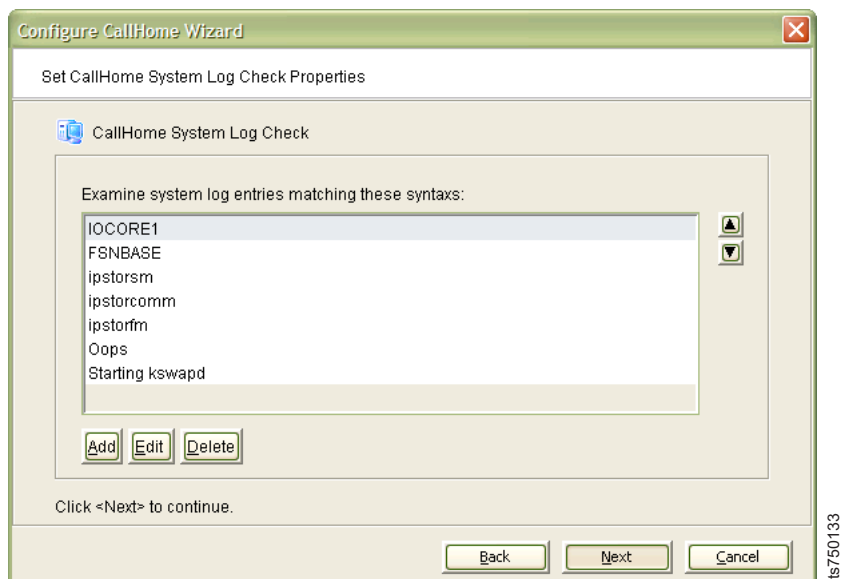

Figure 124. Set CallHome System Log Check Properties window
6. ___ In the Set CallHome System Log Check Properties window (Figure 124):